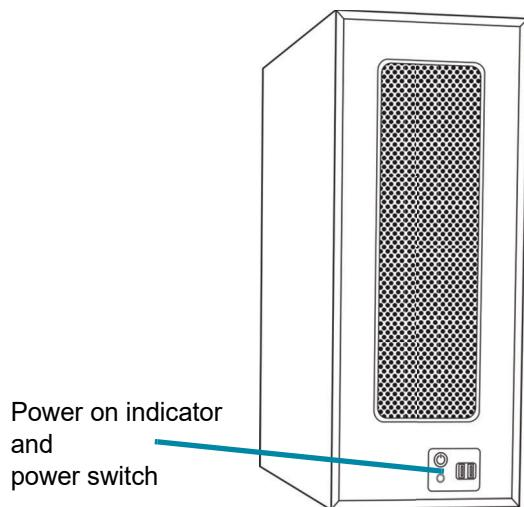

Figure 1-4-3 Power on the Digital Imager computer
3. At the Digital Imager computer, turn on the power. (See Figure 1-4-3.)